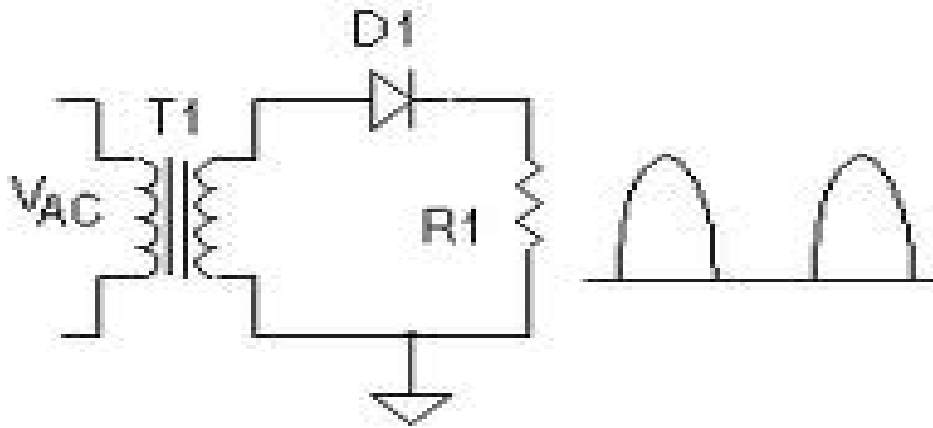

Fig.1
1. Make the connections as shown in the Fig.1